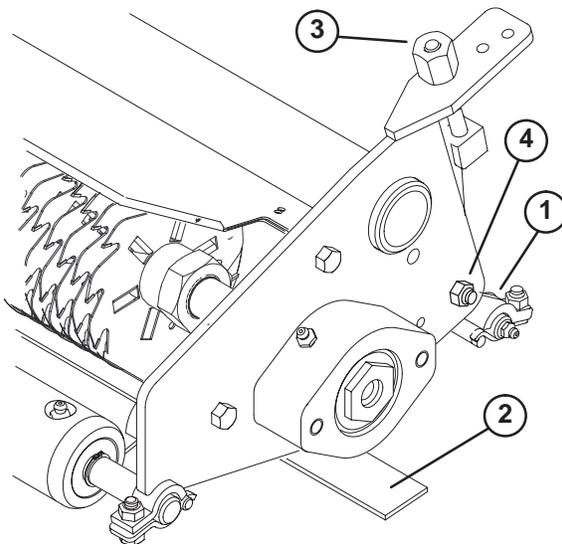

Figure 1
2. Loosen (2) locknuts on carriage bolts securing rear wheel brackets to dethatcher frame (Fig. 1).